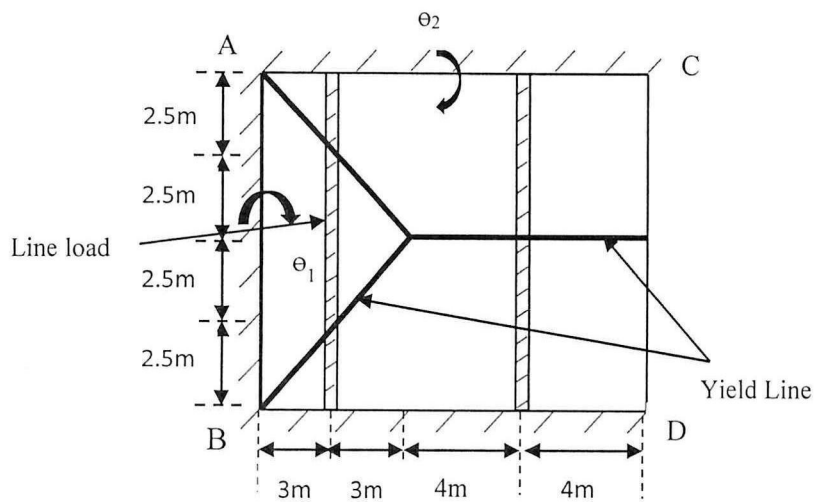

FIGURE Q4(b)
- Q4** (a) List **FOUR (4)** assumptions in Yield Line theory. (8 marks)
- (b) Determine the maximum ultimate moment,  $m$ , for the rectangular slab in **Figure Q4(b)** with dimension 10 m x 14 m. The slab is simply supported at three edges with isotropic reinforcement subjected to distributed load,  $q=15\text{kN/m}^2$ , over its surface area and horizontal line load,  $w = 3 \text{ kN/m}$ . (17 marks)